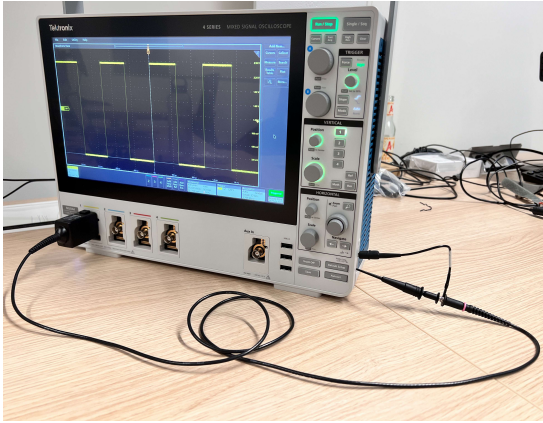

Figure 1: Square wave setup
- `ex0_square_capture.ipynb` demonstrates how to capture a trace of the calibration square wave from the oscilloscope (see Figure 1).